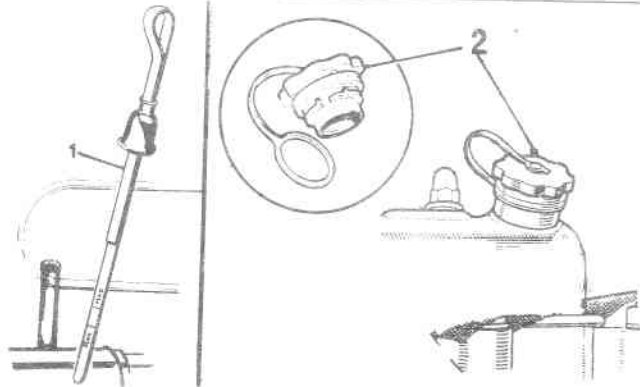

Fig. 5 Oil filler cap & dipstick
C.3. TO CHECK ENGINE OIL LEVEL (FIG.5)
C.4. TO CHANGE ENGINE OIL (FIG.5)